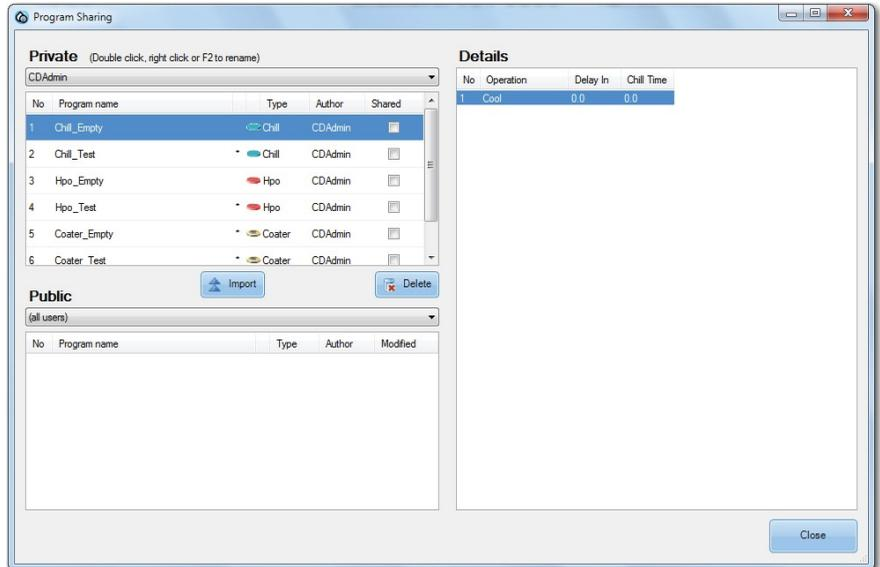

FIGURE 3-23: Sharing module programs
1. On the Programs page, click **Share**. The Program Sharing dialog box opens. See Figure 3-23.